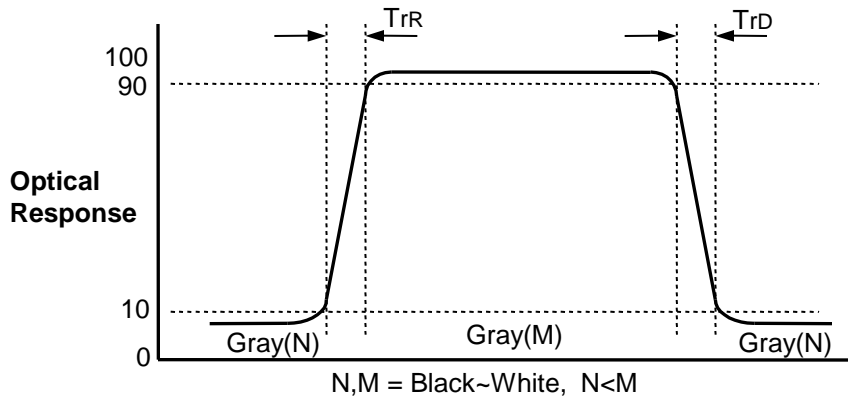

FIG. 3 Response Time
3. Response time is the time required for the display to transit from G(N) to G(M) (Rise Time, TrR) and from G(M) to G(N) (Decay Time, TrD). For additional information see the FIG. 3. (N<M)